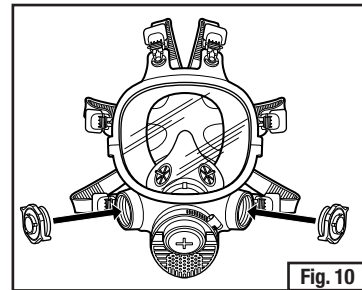

Fig. 10
2. The 3M™ Bayonet Adapter 701 allows you to attach the dual airline breathing tube to the 3M™ Full Facepiece 7800S (Fig. 10).